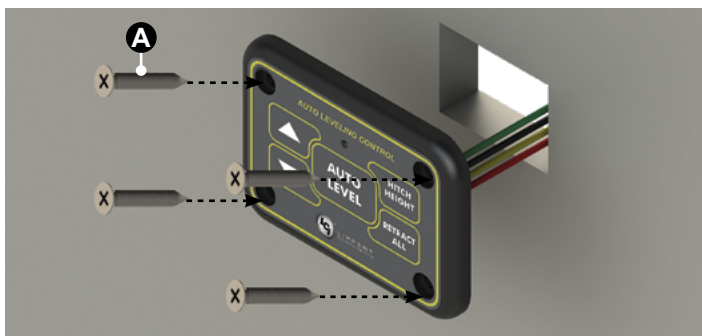

Fig.25
4. Feed the touch pad harness through this hole and run it to the compartment where the controller is mounted (**Fig.25**). Plug the harness into the appropriate connector on the controller.